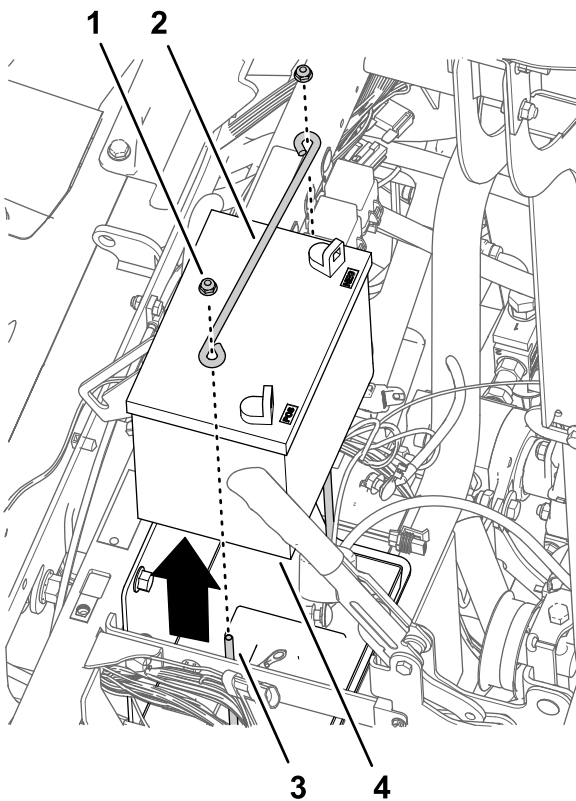

Figure 168
4. Install the cover that you removed in step 2 of Removing the Steering Wheel \(page 74\) onto the steering wheel (Figure 168).
1. Remove the 2 flange locknuts and hold-down rod from the 2 J-bolts that secure the battery to the battery bracket of the machine (Figure 168).
2. Remove the battery from the machine (Figure 168).